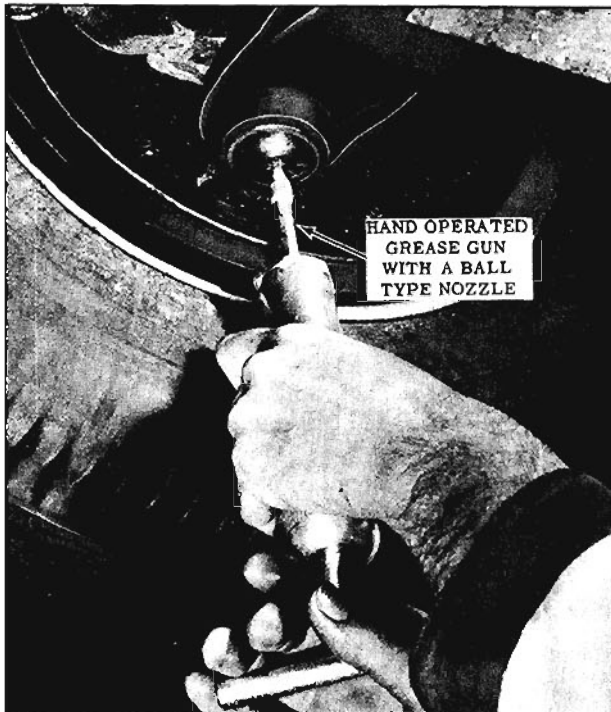

Fig. 9-9 Adding Lubricant to Ball Joint
6. Hold tip of grease gun firmly into lubrication hole and install correct amount of grease by counting the number of turns or pumps (Fig. 9-9)